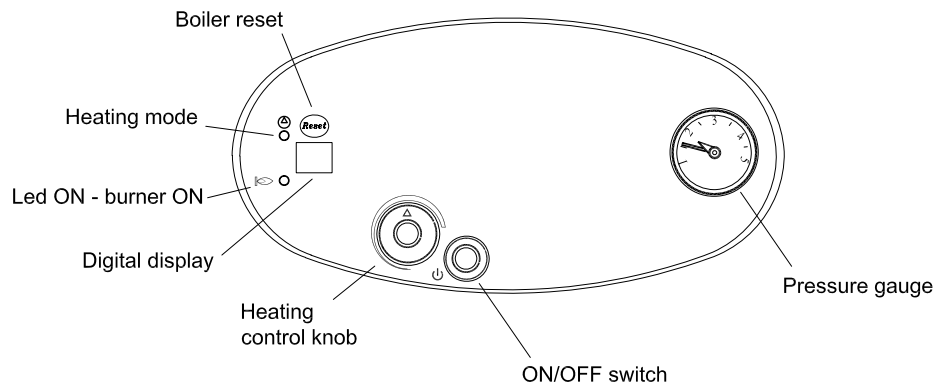

Fig.1
1.4 USER CONTROLS (Fig.1)
1.5.1 Before lighting the appliance check the system pressure (pressure gauge fig.1) is not less than 1 bar. If it is below, it will be necessary to repressurise the system, as the appliance requires system pressure to be maintained between 1 and 1.5 bar to allow the boiler to operate. A filling device (filling loop) will have been fitted on the system. This will be usually on pipework near to the boiler. If you are unsure of its position, or cannot identify it, consult the installer who fitted the boiler.
1.5.2 In the event of an error display at in the appliance there will be a sequence code (Table of sequence codes page 4) displayed on the Digital Display of the control panel (fig. 1).
By pressing the "RESET" button (fig. 1) for 1 to 3 seconds it is possible to relight the boiler.
2.2 Burner will operate, temperature output of Central Heating can be adjusted by Heating Control Knob (Fig.1). The knob can be set between minimum (40°C) and maximum (85°C), as the control knob is rotated the temperature display flashes. Adjust external controls to required settings.
For long periods switch off the ON/OFF switch (Fig.1). If the appliance is to be shut down for long periods when there is a risk of freezing, the appliance should be drained. Refilling must be done by a competent person, as set out in installation manual.